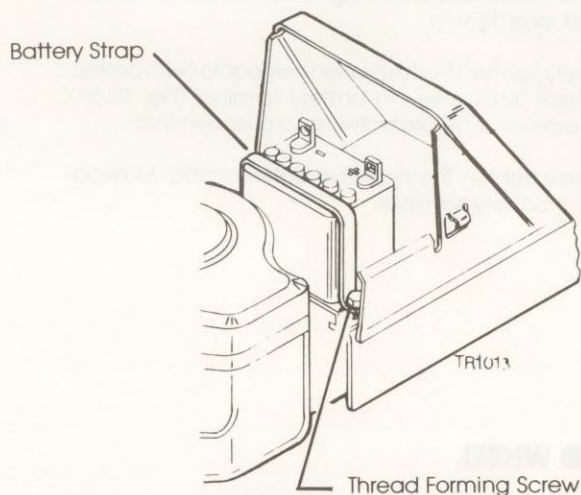

FIG. 10.2A
Refer to Fig. 10.2A.
- (2) $\frac{5}{16}$ Lock Washers
- B. Clamp the battery in place (Fig. 10.2A). Use battery strap and two thread forming screws removed in step 1.